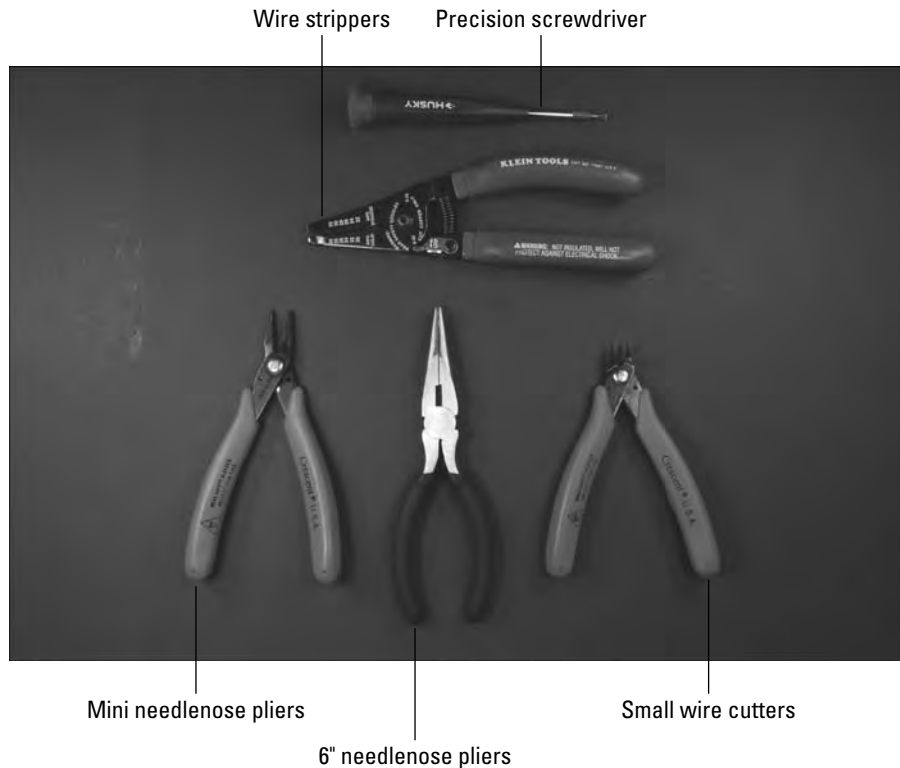

Figure 3-4:
- ✔ **Standard sized needlenose pliers:** These are useful for tasks where you need to apply more strength than mini needlenose pliers can handle. You can see both standard-sized needlenose pliers and the smaller version in Figure 3-4.
- ✔ **A small pair of wire cutters:** These are useful for clipping wires in close quarters, such as above a solder joint. The standard size of wire clippers you find at hardware stores is so large that you might have trouble clipping the wire with enough precision. You can see the smaller version in Figure 3-4.